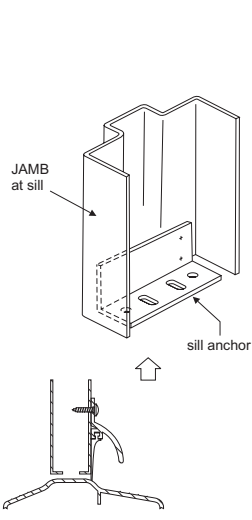

Fig. 3
**D** Install pre-notched threshold, Tap threshold onto jamb, from bottom, see Fig. 3.